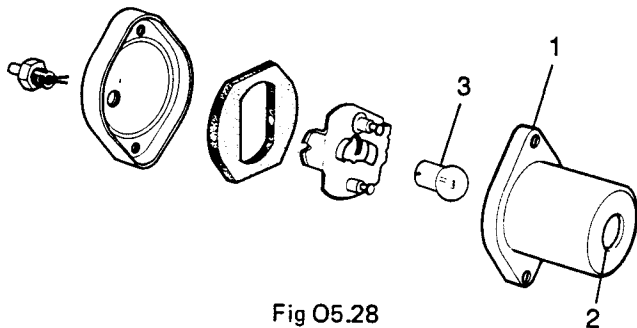

Fig O5.28
- (2) Refer to Fig O5.28. Remove the lens cover fixings (1) and pull off the lens.
- (3) Remove the bulb (3) if required.
- (4) Remove the fixings for the cover in the rear of the load area behind the lamp (two self tapping screws and one nut) and lift the cover away.
- (5) Disconnect the lamp leads at the snap connectors making a note of which socket each lead comes from.
- (6) Remove the two nuts holding the lamp to the wall and pull the lamp body away.
- (1) The switch is symmetrical and may be fitted either way round. Place the switch in position and secure with the wave washer and nut.
- (2) Connect the leads to the switch as shown in Fig O5.28.
- (3) Refit the switch safety housing (2) and secure with the two self tapping screws (1).
- (4) Replace the instrument panel.
- (5) Reconnect the battery earth lead.